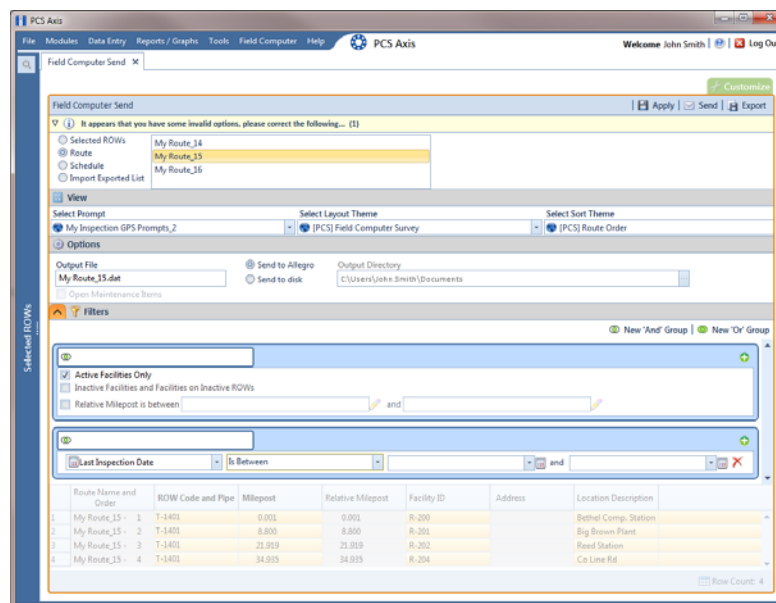

Figure 7-37. New 'And' Filter Group
- 24** If you want to add a new AND filter group, complete the following steps. With an AND filter group, PCS Axis includes a subset of records that meet *all* filter conditions defined for the filter group. Records are filtered in the grid and in the route sent to the Allegro (Figure 7-37).